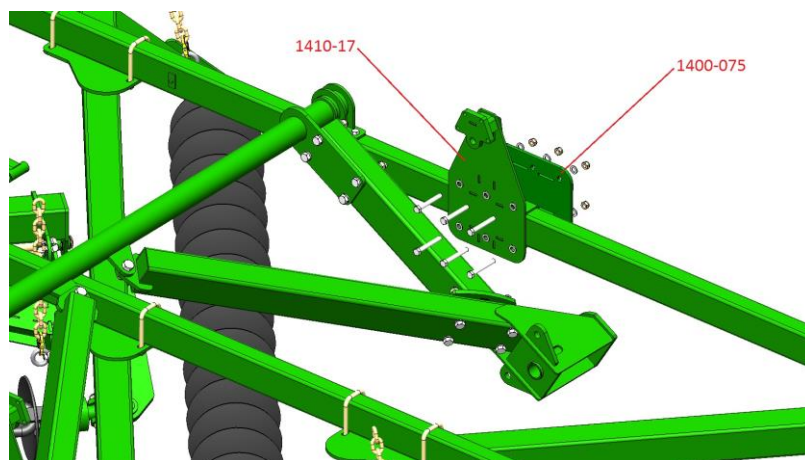

Figure 7: Attachment of Hydraulic Lift Mount 1410-17
3. Mount Hydraulic Lift Mount (1410-17), with the brace mount lugs facing inboard as shown in Figure 7. Using Hydraulic Lift Mount Clamp Plate 1400-075, bolt through with 6-off M16x20 bolts.